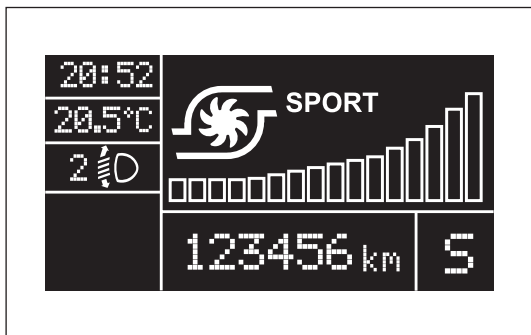

fig. 93
- Screen with turbocharger pressure: fig. 93.